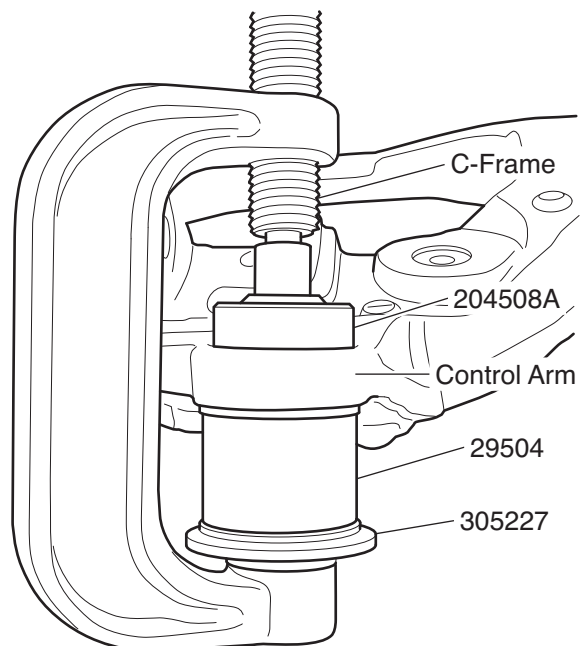

Figure 2. Ball Joint Installation
3. Position 29504 and 305227 (or 39976 or 531739 alone) on the ball joint as shown in Figure 2.